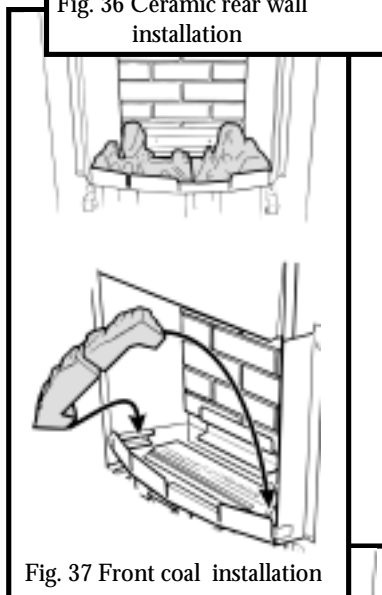

Fig. 37 Front coal installation
12.2 Place the two halves of the front base coal in the burner compartment so that they rest on the ledges at the sides and front. Pull the coals forward so that they are immediately behind the front rim of the burner compartment (See fig. 37).